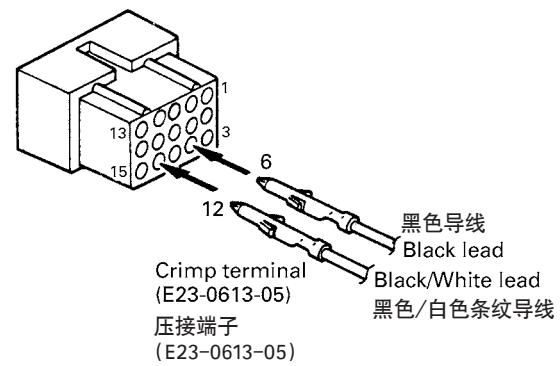

Fig. 4-3 / 图4-3
3. Reinsert the terminal with the black and white stripe lead into hole number 12, and the terminal with the black lead into hole number 6. (Fig. 4-3)
3. 将黑白条纹的导线重新插入端子的12号孔, 将黑色导线重新插入6号孔。 (图4-3)。